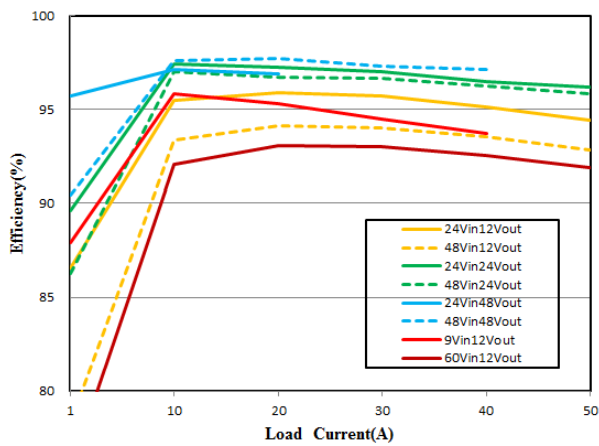

Figure 1: Efficiency vs. Load Current at Ta=25°C
1) Vset(Trim) pin (9) is the default output voltage setting Pin. It can be disabled and set output voltage by PMBus. Refer to PMBus commands specifically.
2) H60SB0A050NRDE efficiency is 1.3% less than the H60SB0A050 other series when Vo close to Vin. They are equally efficiency when Vo not close to Vin. H60SB0A050 other series efficiency refer to the Figure 1 of P4.
- 1) Vset(Trim) pin (9) is the default output voltage setting Pin. It can be disabled and set output voltage by PMBus. Refer to PMBus commands specifically.
- 2) H60SB0A050NRDE efficiency is 1.3% less than the H60SB0A050 other series when V_o close to V_{in}. They are equally efficiency when V_o not close to V_{in}. H60SB0A050 other series efficiency refer to the Figure 1 of P4.